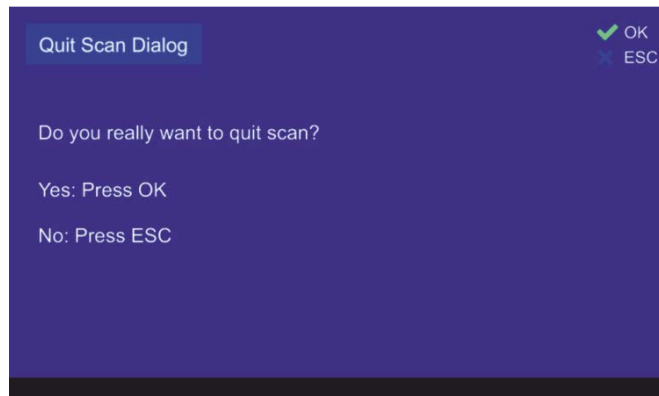

Fig. 30 Confirming of leaving the scan mode
- You can also stop the scan mode by pressing the "HOME" button on the "Bearing" page with activated scan. After you have confirmed the special dialog (s. Fig. 30), this mode will be terminated.